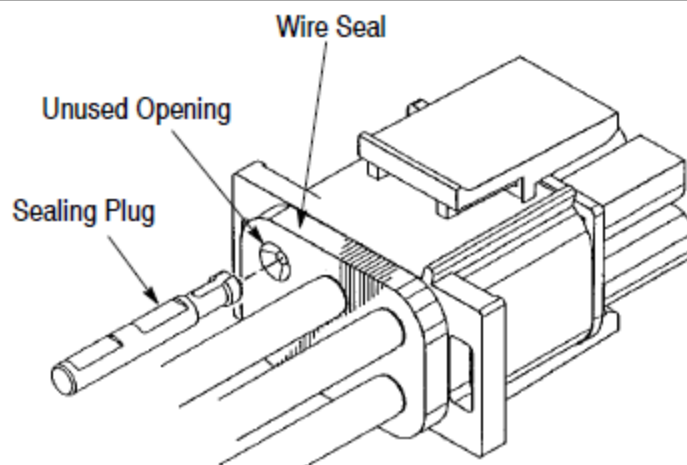

Figure 5
- Align the split tapered end of the sealing plug with an unused opening in the wire seal. Push the sealing plug through the wire seal and into the housing until it snaps into position as shown in Figure 5. Follow this procedure for all unused openings to provide a water resistant seal between the plug and cap housings. Sealing plugs can be removed from the connector housing. While holding the wire seal, grasp the end of the sealing plug with a pair of needle-nose pliers and pull until it is free of the housing and wire seal.